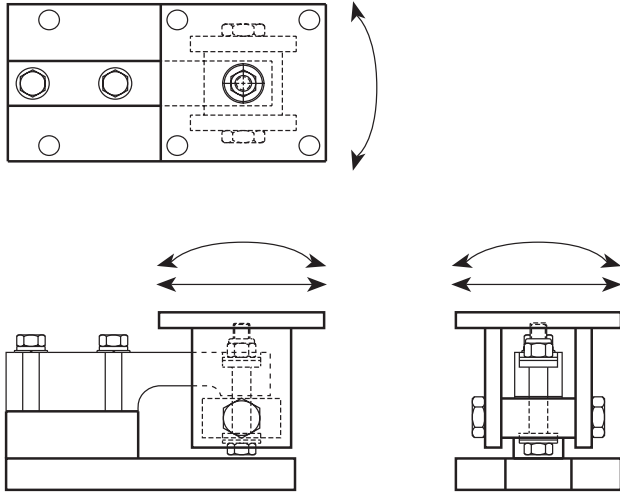

Figure 2-11: RL1900 Module
- 3) A chair arrangement is attached to the trunnion block through pivot screws; the load is applied to the top plate of this chair. This arrangement allows the chair to move in the directions indicated in Figure 2-11.